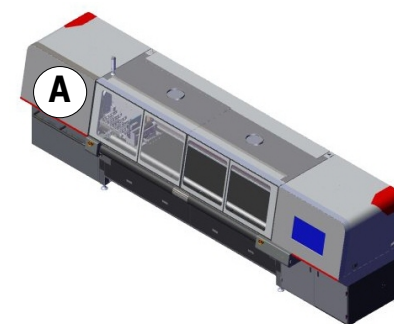

Figure 3-1 Printer Front View
2. Open the carriage compartment door, Figure 3-1 location (A), to access the printer carriage.